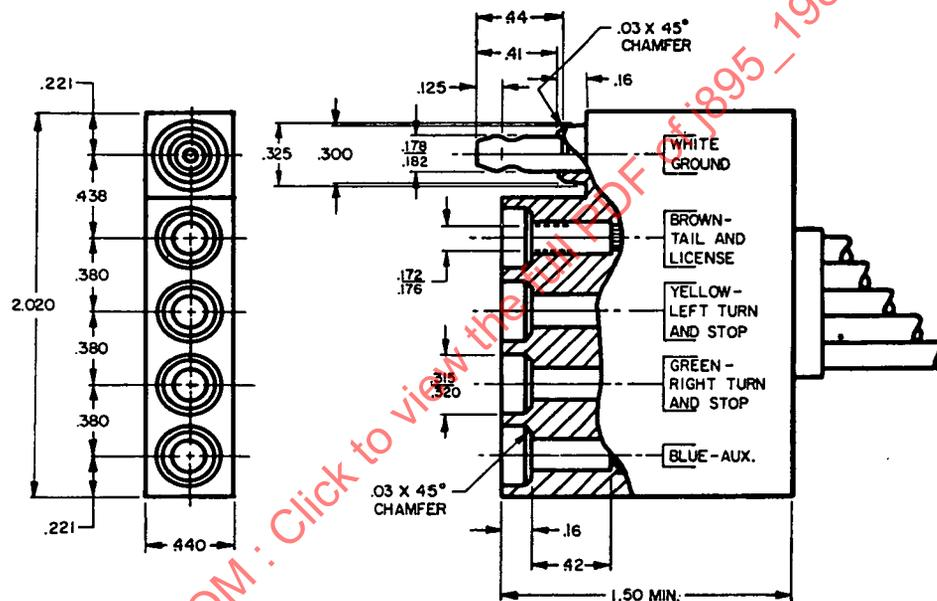
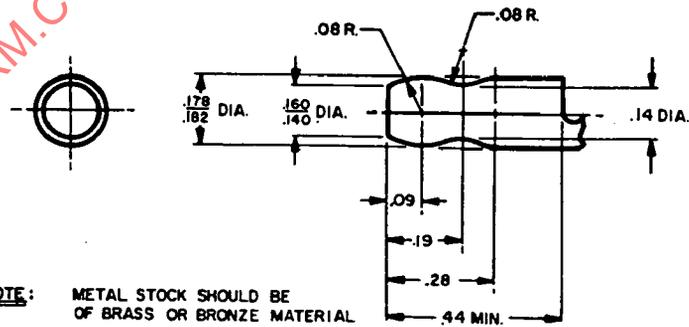

FIG. 1 - RECEPTACLE
FIG. 3 - PIN
2. **RECEPTACLE:** The receptacle shall be of the design as shown in Fig. 1 and shall be attached to the towing vehicle as follows:
- A.1 MATERIAL REQUIREMENTS: The receptacle and plug shall be made of an insulating material such that they can be processed to provide the spacing and splash protection indicated in Figs. 1 and 2. The material used shall have a hardness of Shore "A" 50 minimum and shall be compatible with the insulation used on the wire leads and/or jacket over the leads. Where thermoplastic materials are used the hardness shall not exceed Shore "A" 70. The jacket on the leads shall be as deemed necessary to adequately protect the wiring. The metal pins and sockets shall be of the size and type shown in Figs. 3 and 4 made of either brass or bronze and suitably coated to protect against corrosion. The coating shall be smooth so as not to bind when the parts are engaged.